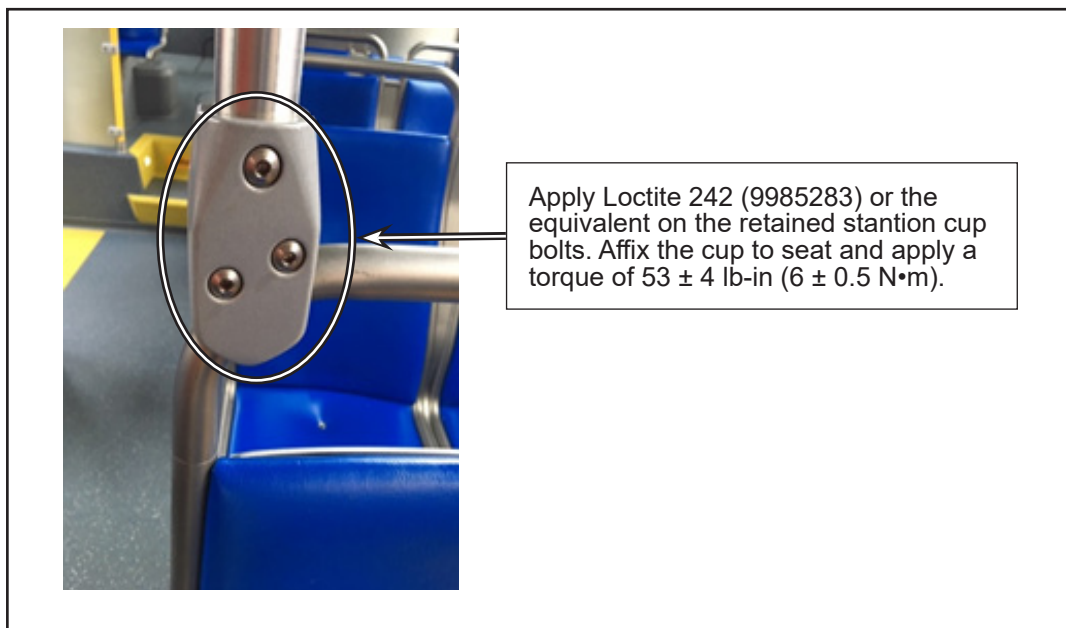

Figure 16 - Torque Value for Typical Stanchion Cup Bolts
- ab. Install the retained stanchion cup with the retained hardware. See Figure 16 for torque value.